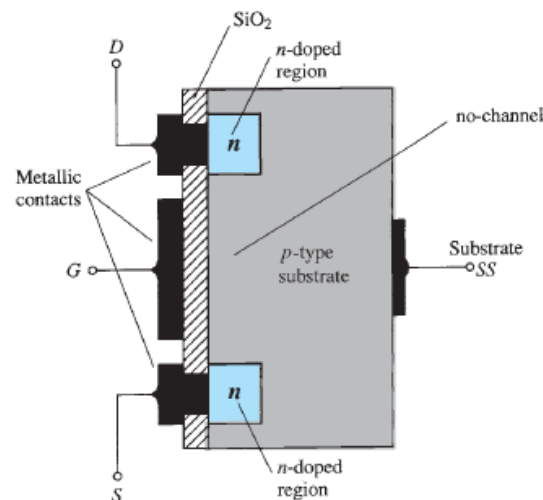

FIG. 6.32
- 1- If V_{GS} is set at 0V and a voltage applied between the drain and the source of the device of Fig. 6.32, the absence of an n -channel (with its generous number of free carriers) will result in a current of effectively 0A